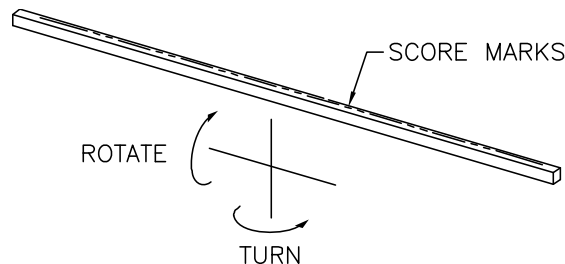

Figure 25
4. Inspect the cut stick for wear. It may be used a total of 8 times (twice on each surface) before replacing. To use a surface twice, reinstall the cut stick by turning it such that the end that came out of the right end of the slot goes into the left end of the slot. If a surface has been used twice, rotate the stick to an unused surface (Figure 25). If all (4) surfaces have been used twice, replace the stick with a new one. New cut sticks can be purchased from your authorized Challenge dealer.